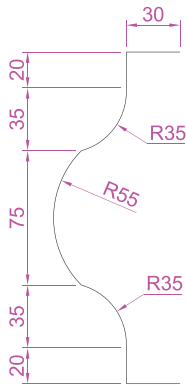

Fig. 5.8 First example –
1. Construct the outline shown in Fig. 5.8 using the **Line** and **Arc** tools.